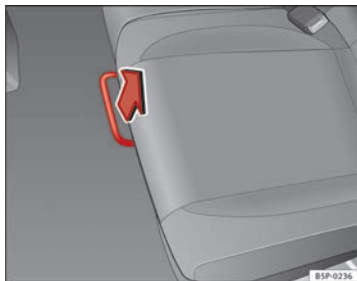

Fig. 95 For unlocking the rear seat
- In the seated position, unlock the lever in the direction of the arrow ⇒ Fig. 95.